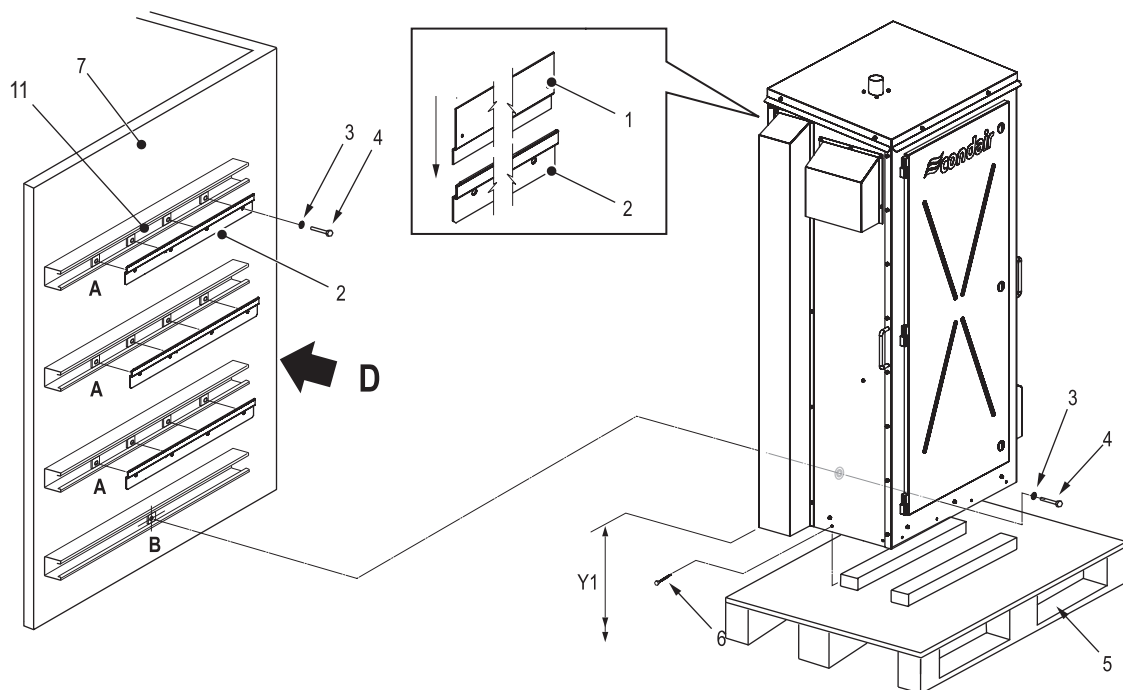

Fig. 12: Exterior Wall Mounting
3. Mark the attachment points "A" and "B" at the desired position with the help of a level. Refer to Fig. 12 and Table 7.
8. Carefully raise the humidifier into position and align the mounting brackets on the back of the humidifier with the installed mounting bars, as shown in Fig. 12. Lower the humidifier onto the mounting bars, and ensure that the unit is seated properly and level.